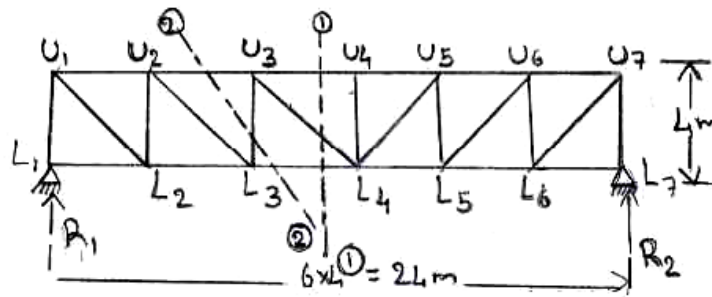

Figure 4
4. Draw the influence line diagram for forces in the members  $U_3L_4$ ,  $U_3U_4$  and  $U_3L_3$  of the frame shown in Figure 4 and find the maximum forces developed, when uniformly distributed load of intensity  $40 \text{ kN/m}$ , longer than the span moves from left to right on bottom chord. [16]